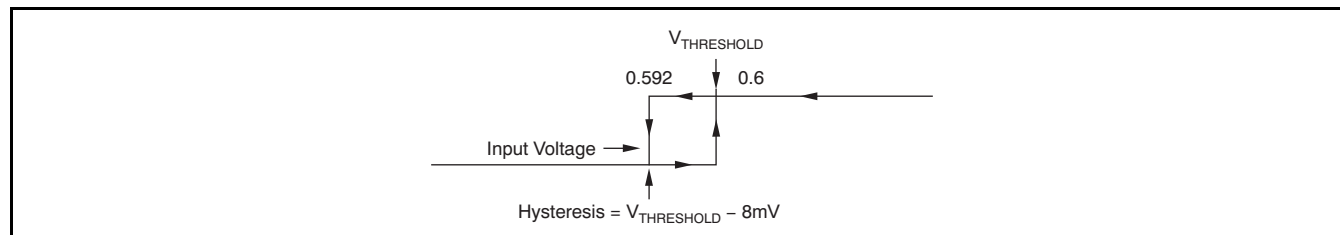

Figure 1. Comparator Hysteresis
- (1) Hysteresis refers to the threshold (the threshold specification applies to a rising edge of a noninverting input) of a falling edge on the noninverting input of the comparator; refer to Figure 1.
- (2) Specified by design; not production tested.
- (3) See the Comparator Maximum Input Voltage Range section in the Applications Information.
- (4) The comparator response time specified is the interval between the input step function and the instant when the output crosses 1.4V.
- (5) The CMP1 RESET input has an internal 2M Ω (typical) pull-down. Leaving the CMP1 RESET open results in a LOW state, with transparent comparator operation.
- (6) The Comparator 2 delay applies to both rising and falling edges of the comparator output.